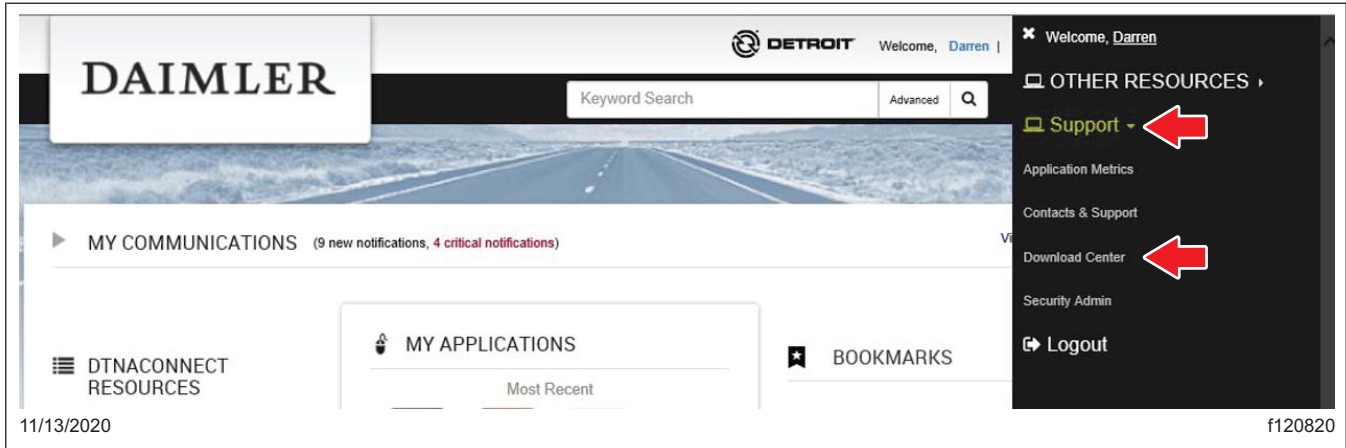

Fig. 2, Selecting Download Center
3. Select 'Support,' then select 'Download Center.' See Fig. 2.